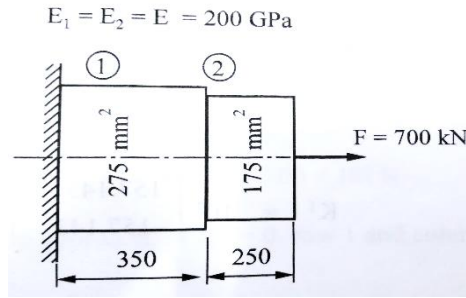

Figure 1
- (c) Consider the bar as shown in figure 1 below. find: a) Nodal Displacement, using global stiffness matrix. b) Elemental Stresses. c) Support Reaction. 07